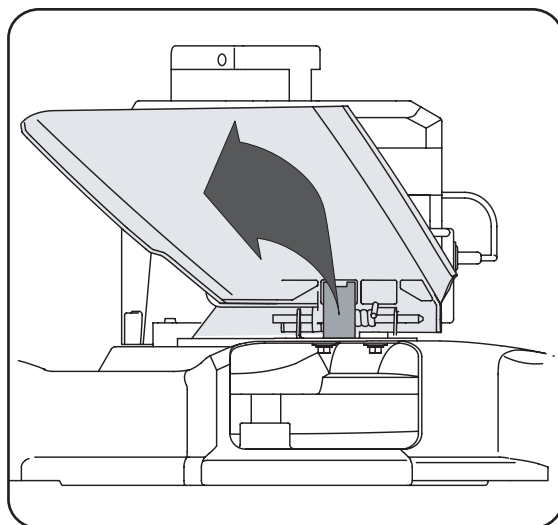

Figure 1
1. The chute deflector on your mower may be held in an upright position by a block for shipping purposes only. This shipping block must be removed and discarded before the mower is put into operation. See Figure 1.